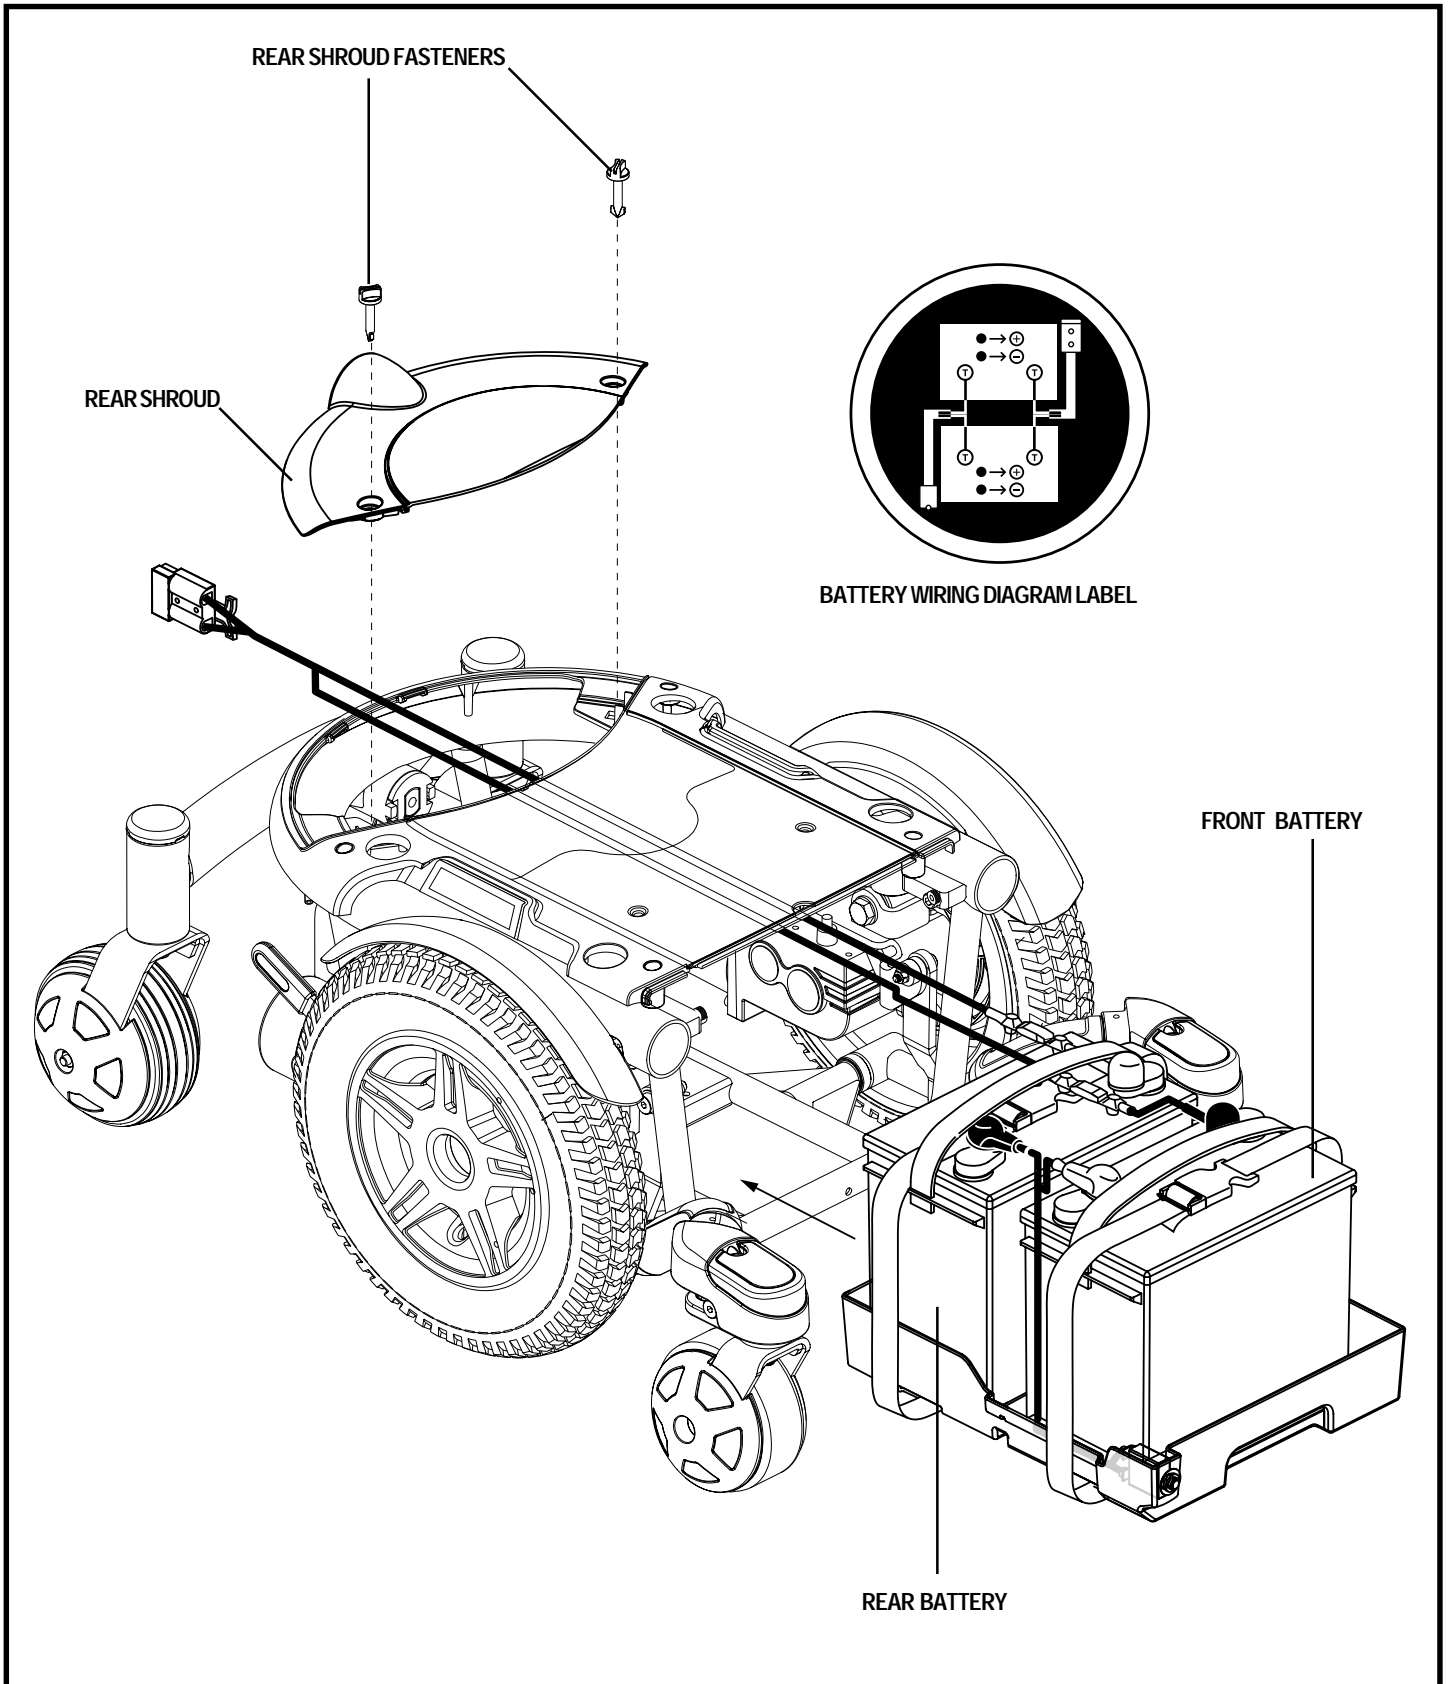

Figure 37. Battery Installation
12. Connect the battery harness to the front battery according to the battery wiring diagram. See figure 37.